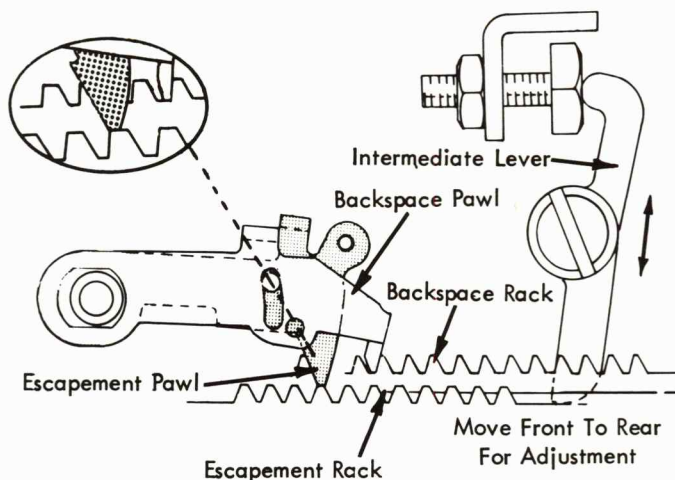

FIGURE 139. Intermediate Lever Adjustment
4. **Intermediate Lever** - With the backspace cam manually operated to the high point, the escapement pawl should just fail to drop into the preceding rack tooth causing the manual backspace operation to fail. Adjust the intermediate lever pivot screw forward or back in its elongated mounting hole to obtain this condition (Fig. 139).